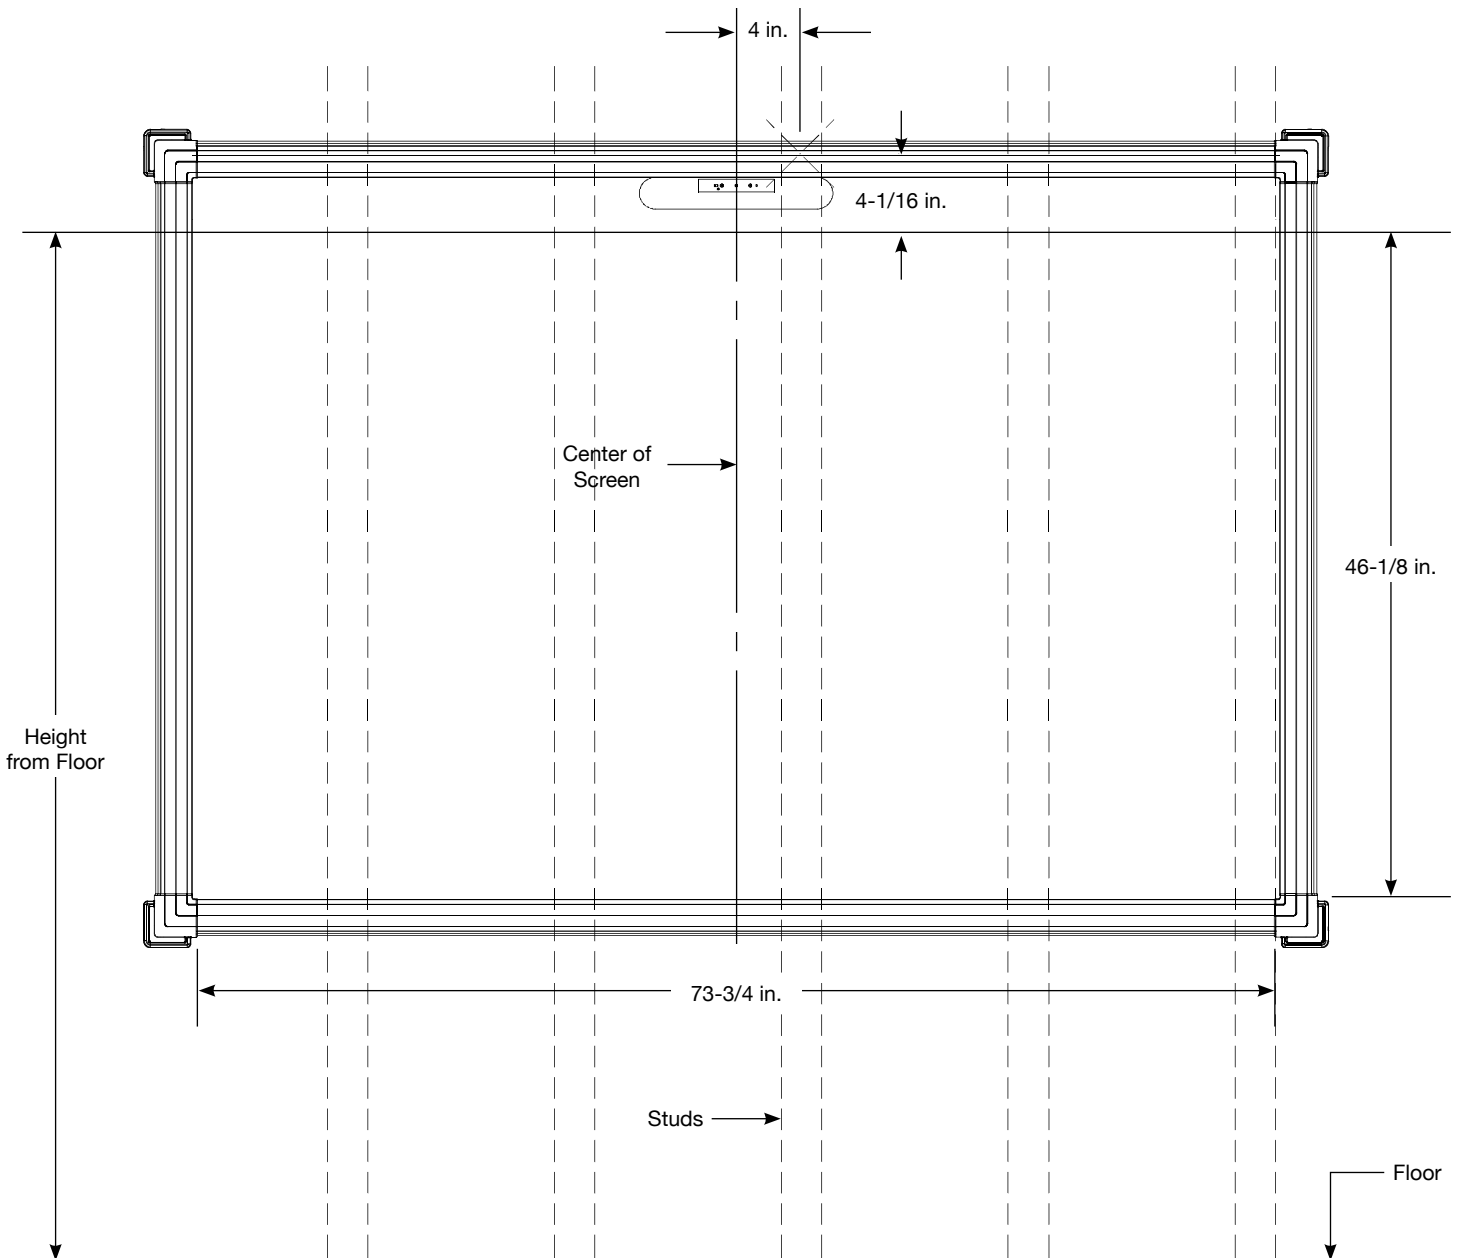

Figure 1
1. Determine desired height of image (measured from floor) (Figure 1).
2. Determine desired center of image area (Figure 1).
3. Measure $4\frac{1}{16}$ " up from desired height (top) of image and 4 " to the right of center of screen and mark location (Figure 1).
5. Drill one pilot hole into a wall stud at location marked in Step 3 (Figure 1).